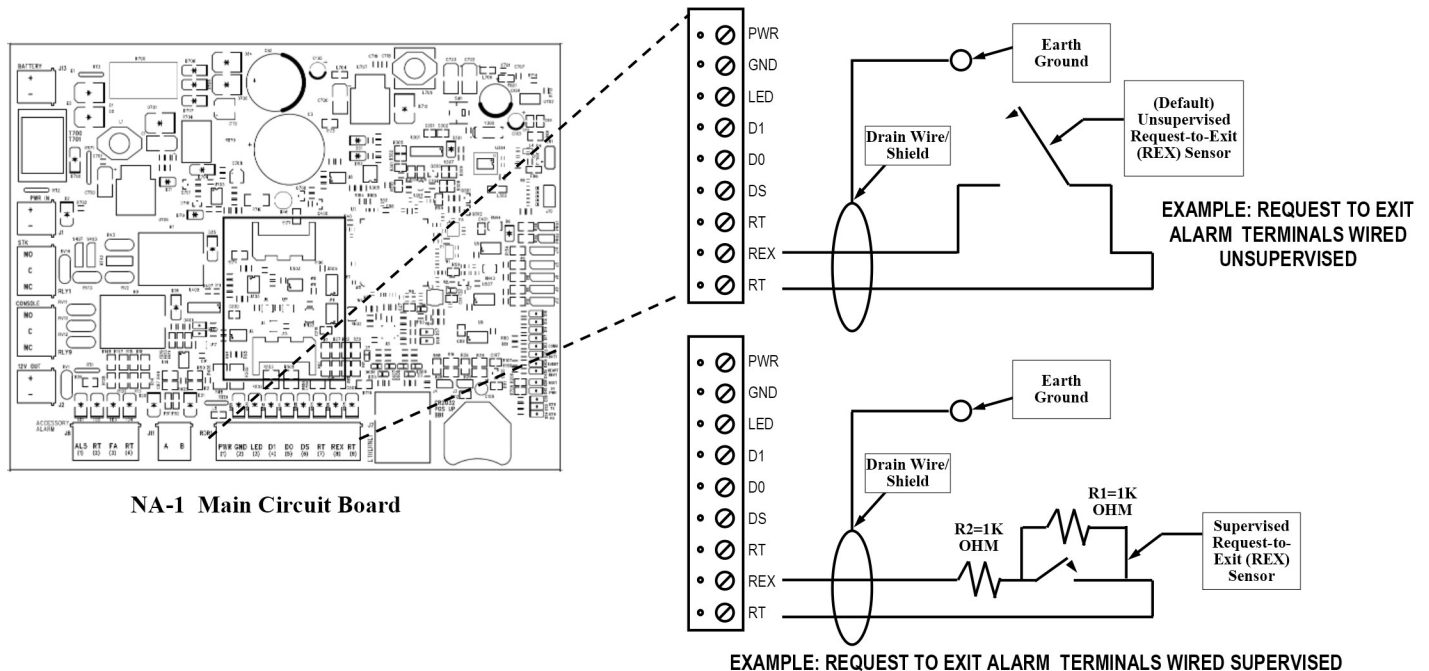

Figure 11 - Request-to-Exit Sensor to NA-1 Connections. Plain (Unsupervised) Contacts, and Supervised Contacts
Request-to-Exit (REX) sensors, also known as Bypass sensors, work in tandem with Door Status Sensors to provide comprehensive control over facility entry and exit. The REX sensor input is connected to the same NA-1 terminal strip (Reader) as the corresponding Door Status Sensor. Both sensors are wired to the screw terminals labeled **REX / RT** on the reader terminal block, and can be configured for either unsupervised or supervised wiring (refer to Figure 11). For input mapping details, see Appendix A on page 33.
Request-to-Exit sensors require a 22AWG, 2-conductor, stranded, shielded, cable with drain wire between the NA-1 and the particular unit (see Figure 11).
2. Install R1 in parallel with the alarm contacts (see Figure 11).